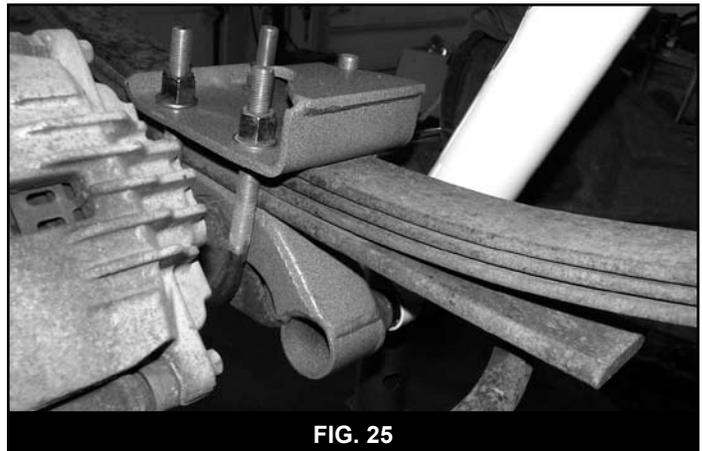

FIG. 25
15. Install the new spring plate on top of the springs over the center pin with the bump stop pad toward the front of the vehicle. Install the new U-bolts around the axle and up through the new spring plate. Retain with provided high nuts and washers. Once both sides are installed and aligned torque the U-bolts to 100-120 ft-lbs. (Fig. 25)